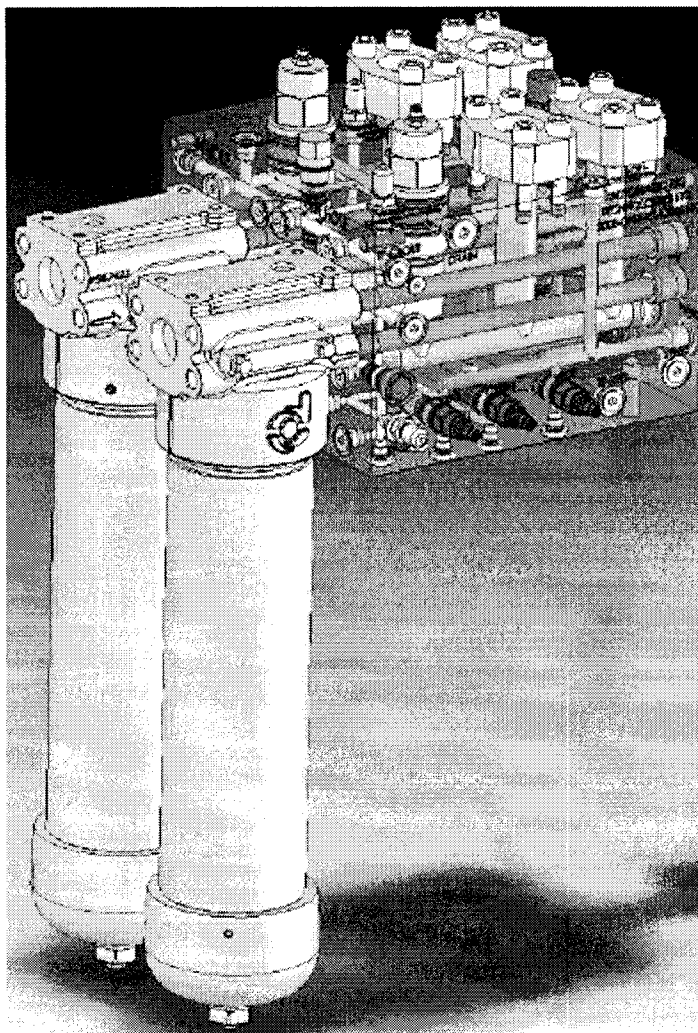

Figure 17
- the detailed description makes reference to Fig. 17 only in par. [0733], and without any reference to the elements in the figure;